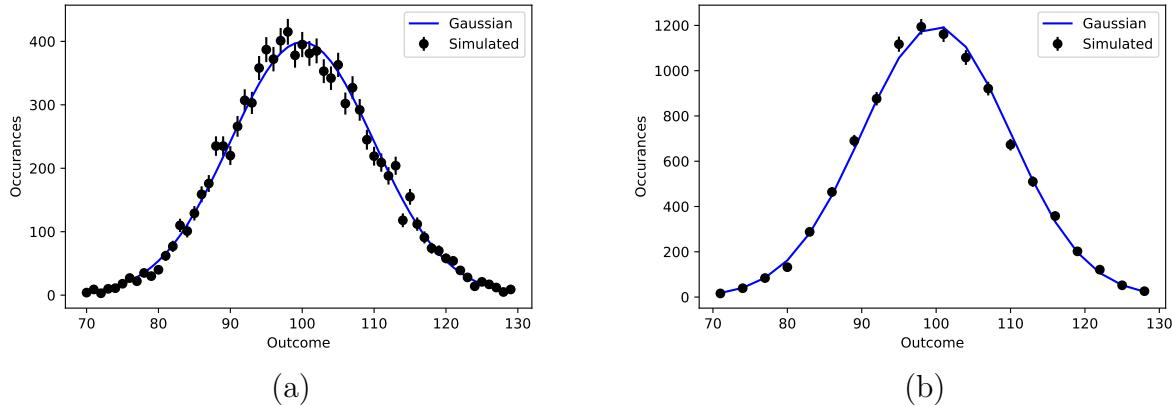

Figure 8.2: Example of the expected result for the Monte Carlo simulation data in comparison to the Gaussian PDF for $\lambda = 100$.
To begin, you will familiarize yourself with the counter and timer features of your Geiger counter assembly using the built-in test mode. Your lab bench will already be prepared with a Geiger Counter assembly as shown in Fig. 8.2. Ensure that the high-voltage (HV) is off by turning the knob labeled “H.V. Adjust” counter-clockwise all the way to zero. Now put the Geiger counter into test mode by flipping the left red switch to “TEST”. Flip the right red switch to “COUNT” and you should see the counter display begin incrementing. Push the button on the front of your timer and you should see the Timer turn on and off. Leave the timer incrementing. Now flip right red switch to “STOP”, and observe that the both the counter and the timer stop simultaneously. The knob on left side of the old-school lab timer can be used to reset the time. Keep turning the knob clockwise until the time reads 0. Use the black button on the Counter to reset the count to zero.